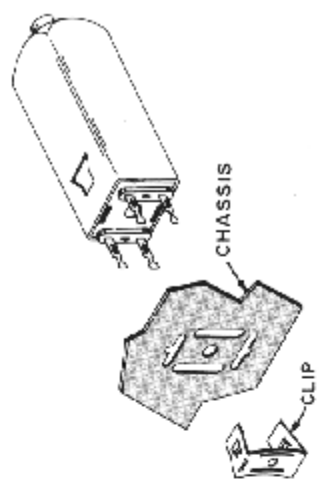

FIGURE 3
- ☑ L-2, output coil in a metal can. Position with the color dot as shown. Mount with the "U" shaped clip as shown in Figure 3.